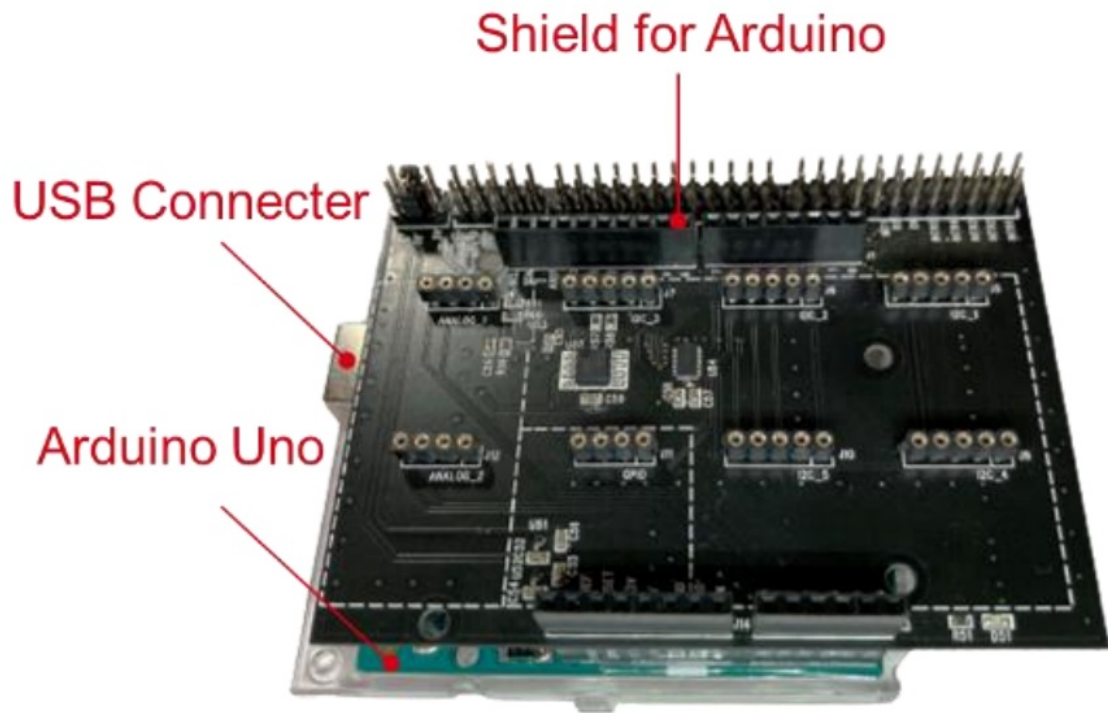

Figure 1. Connection of Arduino Uno and Shield for Arduino
1. Connect Arduino Uno and Shield for Arduino. (Figure 1)